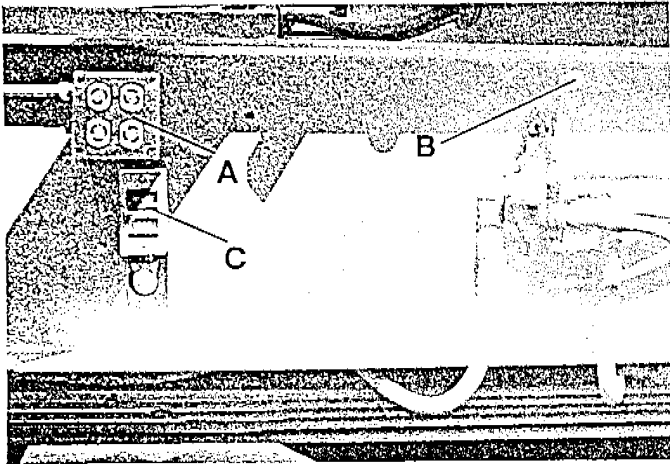

Fig. 27
- (2) NOTE: The front banjo lights are plugged into the four-square sockets located on both sides of the trailer frame, just in front of the front landing gears (d). (Refer to Fig. 1) The side banjo lights are plugged into the four-square sockets located half way down both sides of the trailer frame (a). (Fig. 27)
The lever on the left side controls the left platform section. Hydraulic pump motor start and stop buttons (c) are located in the same area as the control levers. (Refer to Fig. 27)